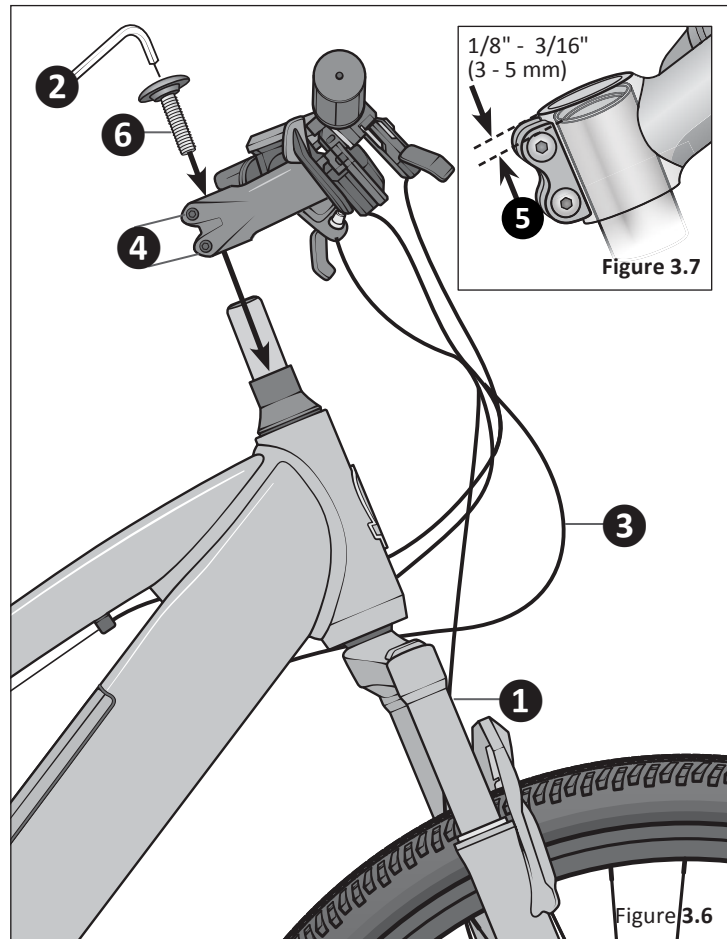

Figure 3.6
- 1 Turn the front fork to face forward (i.e. the fork dropout is in the furthest forward position). **Figure 3.6**